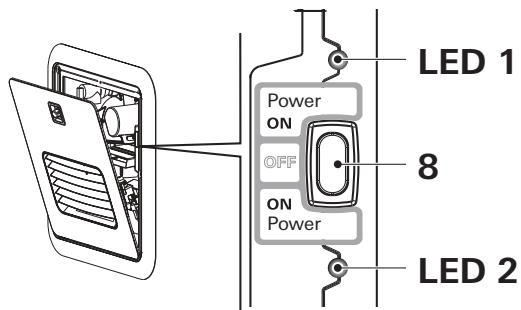

Fig. 8
2. To switch on the appliance, switch the POWER switch (Fig. 8 – 8) to one of the two "ON" positions.
- When the green power ON LED 1 (Fig. 8 – LED 1) is lit, the appliance is switched on.
- If the red error code LED 2 (Fig. 8 – LED 2) is lit / flashes, there is a fault or warning (refer to "APPENDIX A – Error Codes" on page 37).
3. Switch off the appliance at the POWER switch (Fig. 8).
- The green Power-ON LED 1 (Fig. 8) extinguishes.